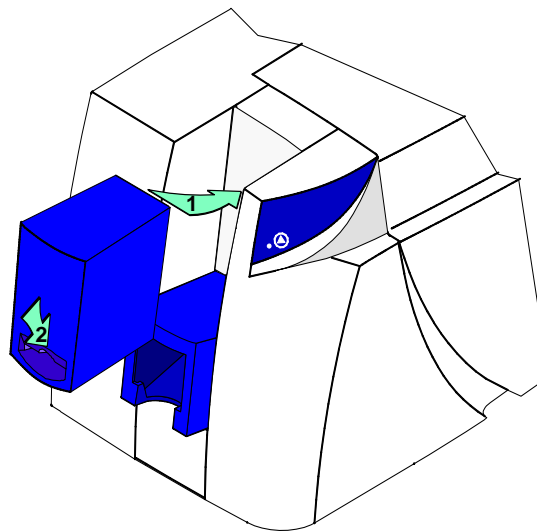

Figure 2-4: Replacing the card cartridge
- 4 Replace the card cartridge in the cavity (step 1 in Figure 2-4). Push the bottom of the card cartridge toward the printer until it clicks into place (step 2 in Figure 2-4).